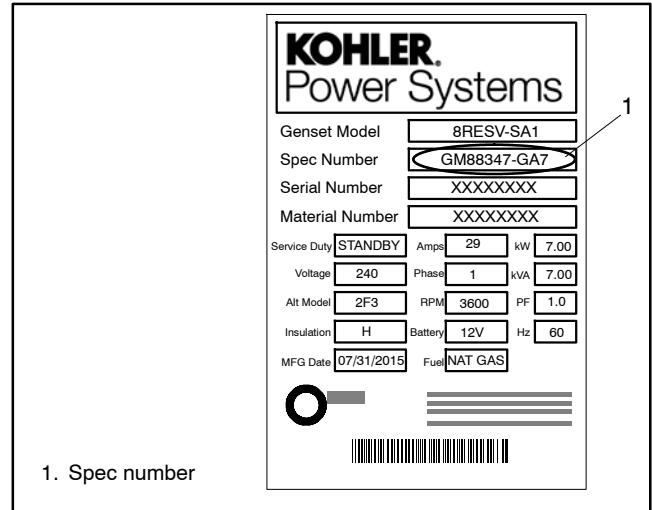

Figure 3-1 Name Plate
Note: The reduced minimum clearance from a structure contained in ADV-8774 only applies to generators that are compliant with clause (2) of section 4.1.4 of NFPA 37. To verify that the generator is compliant, check the **Specification Number** located on the generator name plate. See Figure 3-1. If the name plate displays one of the following specification numbers, then the generator is compliant with clause (2) of section 4.1.4 of NFPA 37 and the reduced clearance in ADV-8774 (Figure 3-5) will apply.